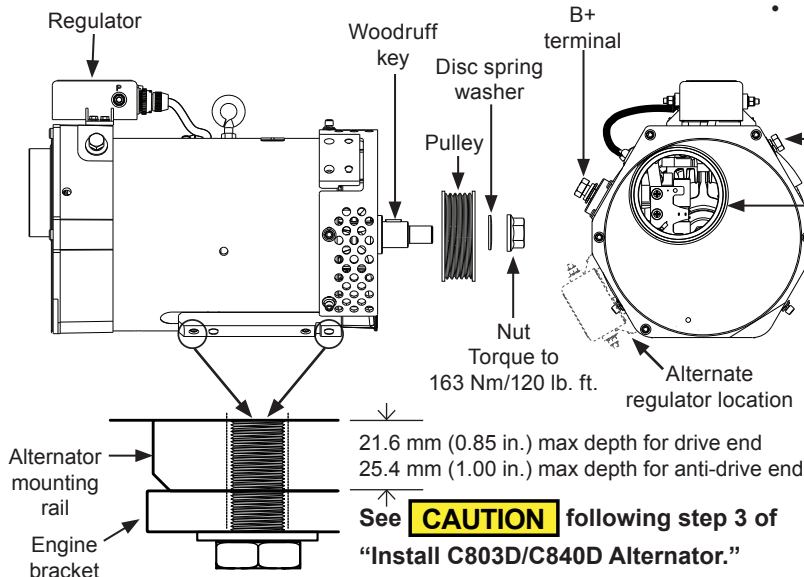

Figure 1: C803D/C840D Alternator
2. Install pulley and furnished disc spring washer with beveled side of washer facing pulley. Torque pulley nut to 163 Nm/120 lb. ft. See Figure 1.
CAUTION Minimum recommended thread engagement is 12.7 mm (0.5") into alternator drive end mounting holes and 16.5 mm (0.65") into anti-drive end mounting holes. Maximum mounting screw depth into alternator regardless of washer and bracket stackup is 21.6 mm (0.85 in.) into drive end mounting holes and 25.4 mm (1.0 in.) into anti-drive end mounting holes. See Figure 1 inset. EXCEEDING MAXIMUM DEPTH WILL RESULT IN IMMEDIATE ALTERNATOR FAILURE.
Attach fresh air duct (not supplied by CEN) to opening on anti-drive end housing. See Figure 1. Duct requirements include: